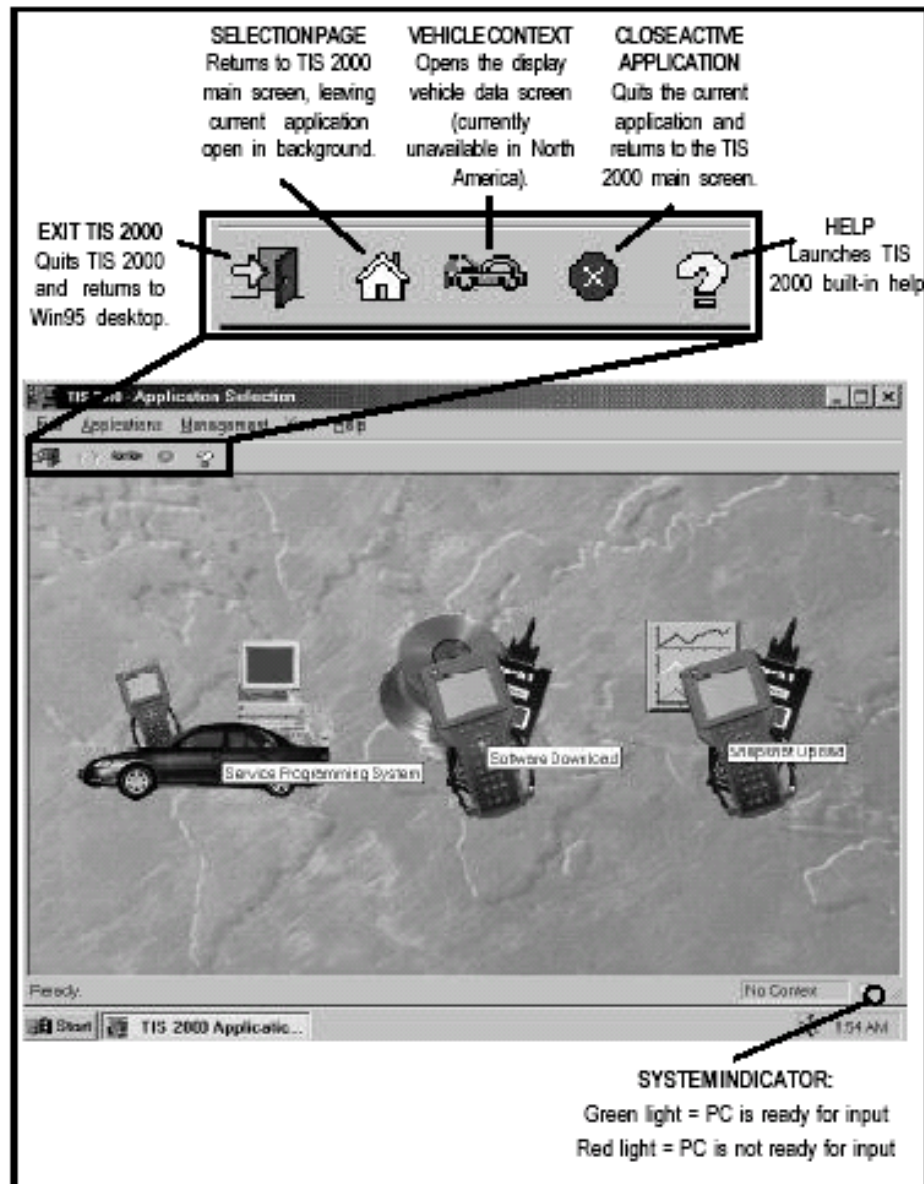

FIGURE 8-18. TIS 2000 Main Screen (Application Selection)
- c. From the TIS 2000 main screen (refer to Figure 8-18), select **Service Programming System**.